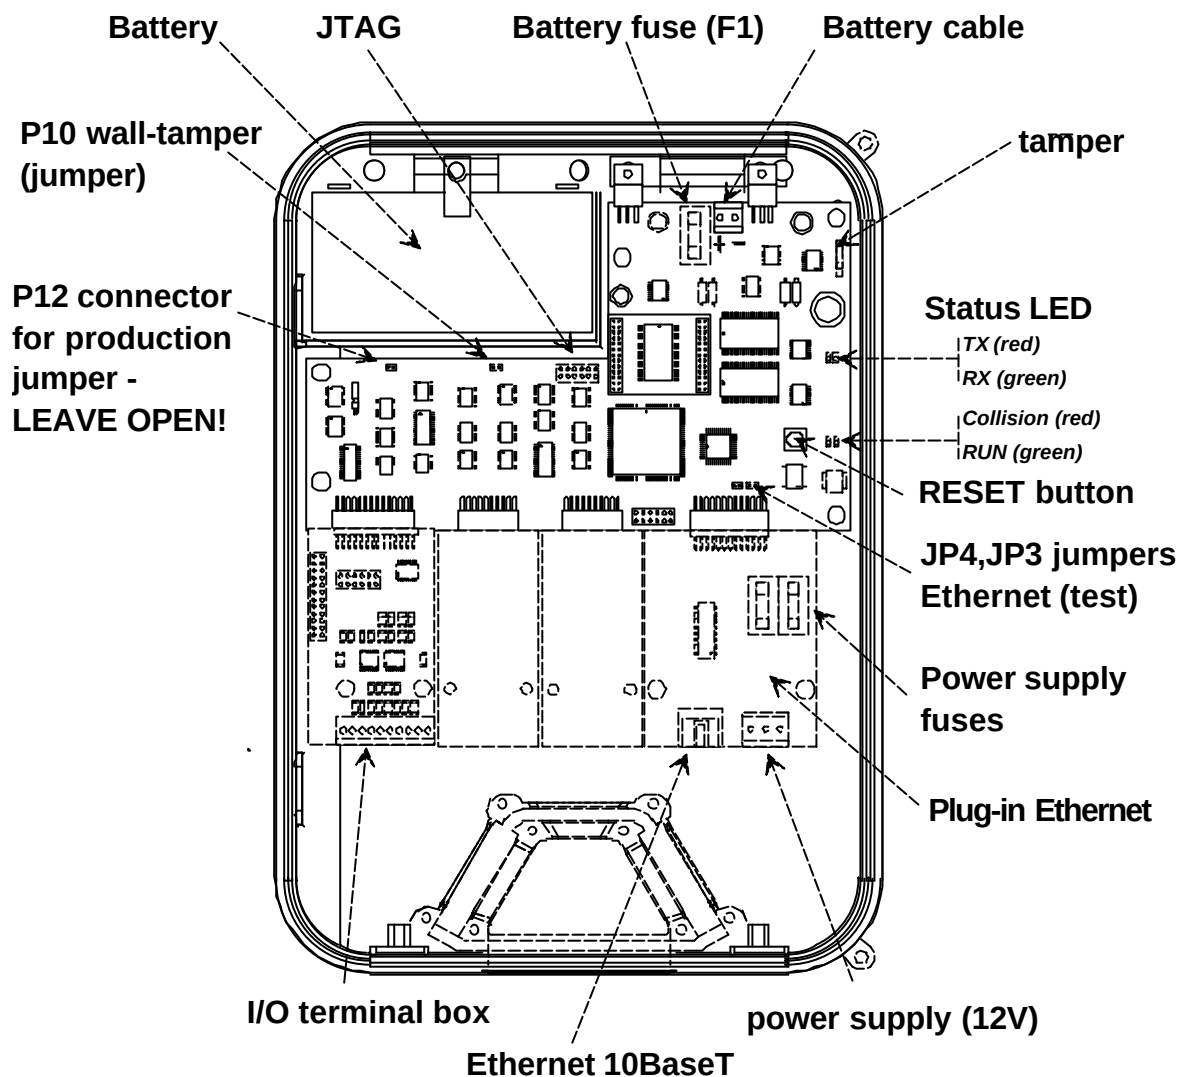

Figure 7: Main circuit components
4. Insert the cable in the corresponding connector (see Figure 7) to complete the connection to the LAN Ethernet 10BaseT (twisted pair).
When 12V of electric current is supplied (see Figure 8), the terminal commences operation and the green “RUN” LED lights up (see Figure 7)